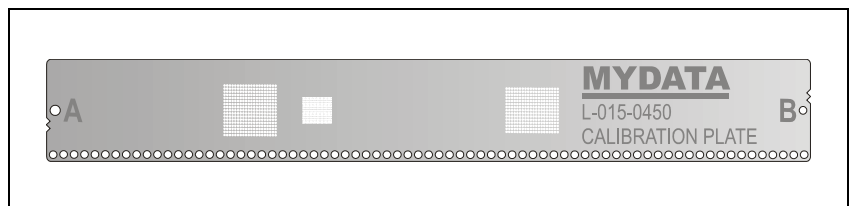

Figure 8-1. Calibration board L-015-0450
2. TPSys will ask if the calibration plate L-015-0450 (see Figure 8-1) is available. Select *Yes*.
4. You are now asked to locate the fiducial marks A and B on the calibration board, see Figure 8-1.